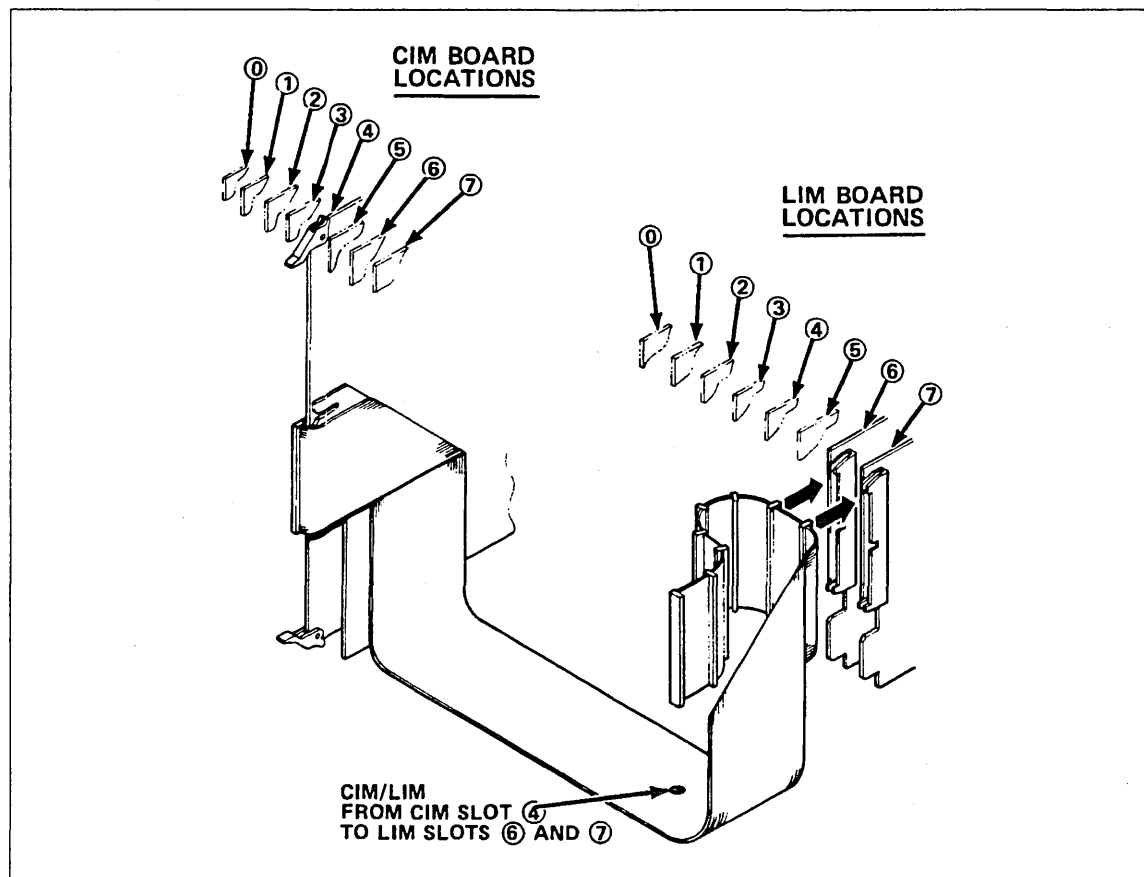

Figure 1-44. Installing First CIM/LIM Cable
2. Position the cable from CIM 4 to the LIMs in slots 6 and 7. Fold the cable back so that the red stripe is on the bottom and the connector is facing the LIM receptacle. Plug connectors 6 and 7 into the LIMs, making sure they are fully seated. The end connector is 0. Fold the excess cable against the right side of the cabinet. Refer to figure 1-44.